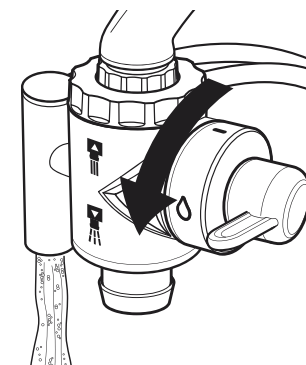

Figure 5.2 – Diverter handle in Horizontal (Filter) Position
2. Open the diverter valve by turning the handle to the horizontal (filter) position (see Figure 5.2).